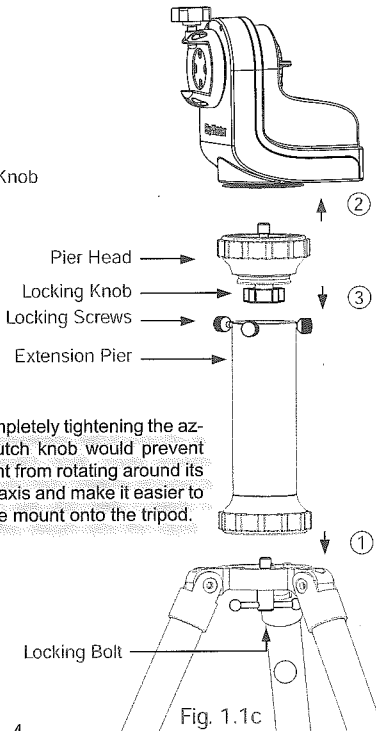

Fig. 1.1c
4. If using a long tube telescope with AZGTi mount, an extension pier should be inserted between the tripod and the AZGTi mount to prevent the telescope from hitting the tripod legs when it points to zenith (Fig. 1.1c).